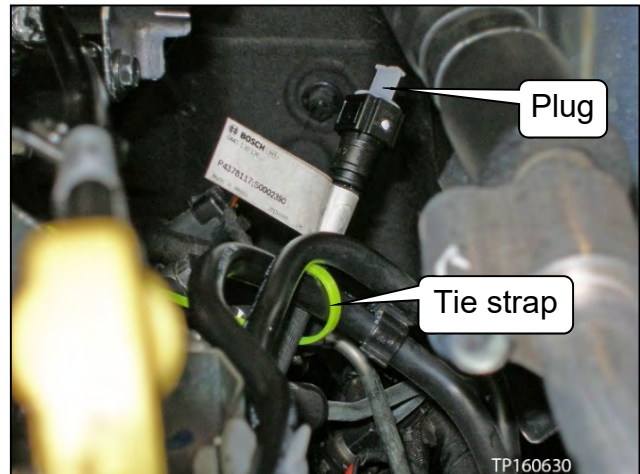

Figure 27
- Do not put side pressure on the fuel injector drain line (drain line). See page 15, Figure 27. If side pressure is applied, the drain line may be damaged.
- d. Carefully move and secure the fuel line out of the way with a tie strap (see Figure 27).